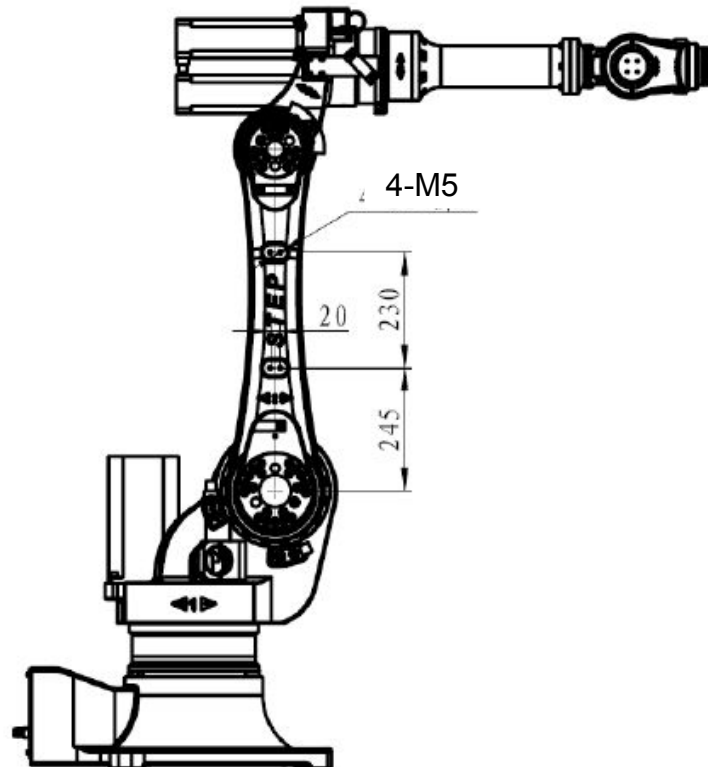
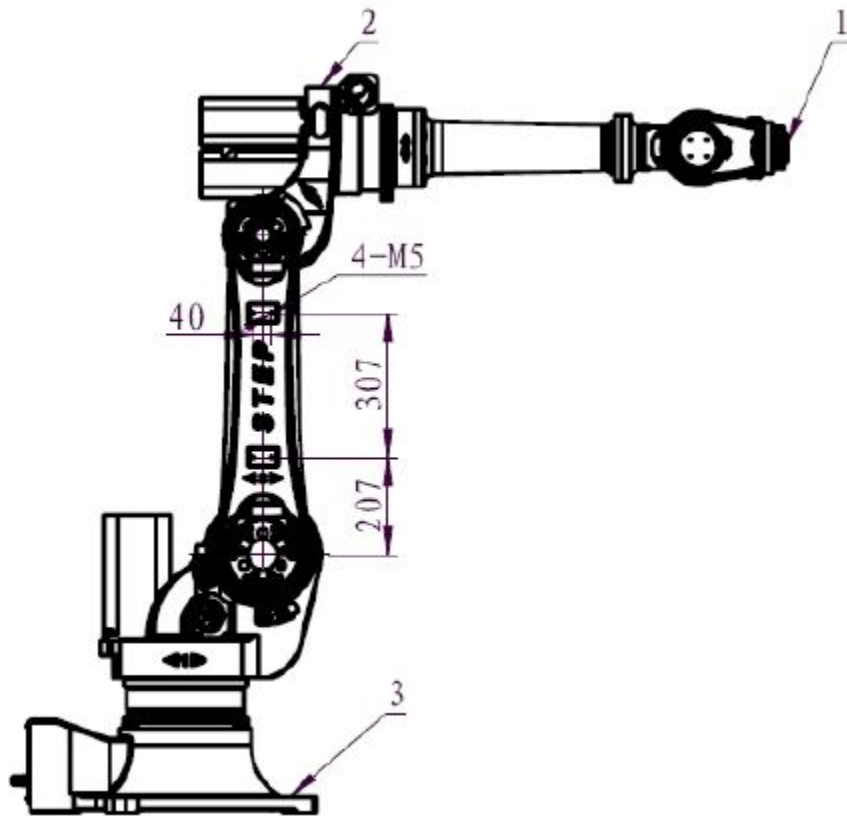

Figure 3-7 Upper Arm Auxiliary Mounting Hole Dimensions of SR18
Figure 3-8 Upper Arm Auxiliary Mounting Hole Dimensions of SR25
2. The upper arm auxiliary mounting hole dimensions of SR20/SR18L8 are shown in fig.3-7; The upper arm auxiliary mounting hole dimensions of SR25 is shown in fig.3-8.